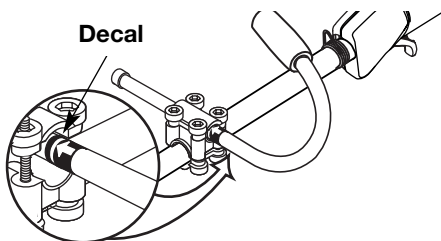

Fig. 3
2. While holding the three pieces together, install the four (4) screws through the top clamp and into middle clamp.
5. Slide the J-handle in or out until the arrow/white line on the decal touches the clamp assembly (Fig. 3). You must first loosen the screws if the handle is pre-installed.